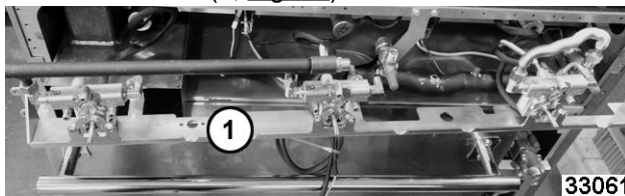

Fig. 16
5. Pull bracket (1, Fig. 16) forward.